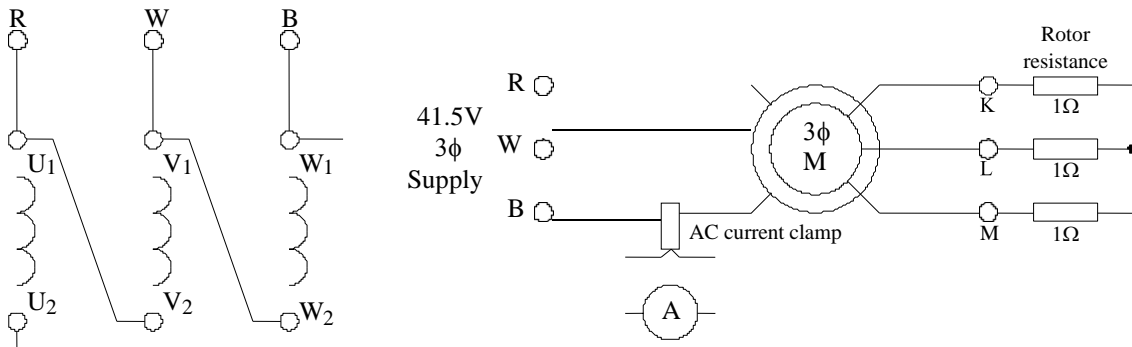

Figure 3
1. Connect the circuit as shown in figure 3, with a 1Ω, 10W resistor added to each phase of the rotor.